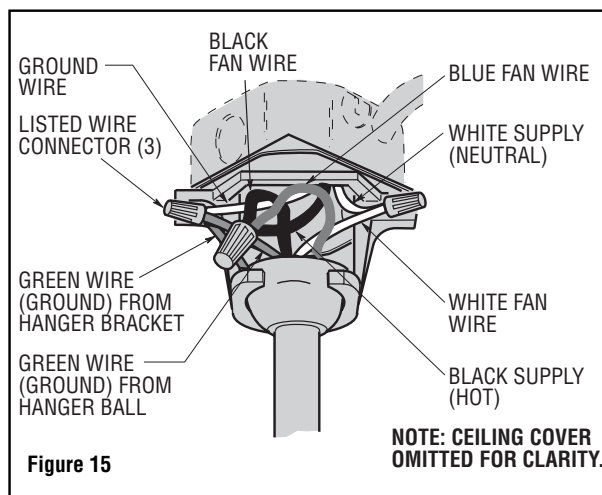
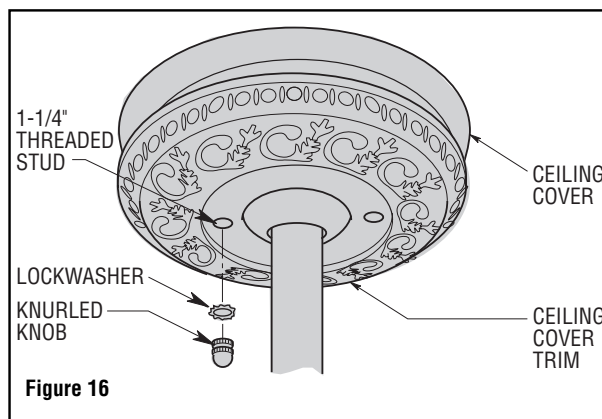

Figure 15
Figure 16
1. Connect the green grounding lead from the hanger ball and the green grounding lead from the hanger bracket to the grounding conductor of supply (this may be a bare wire or wire with green colored insulation) (Figure 15). Securely connect wires with wire connector supplied.
2. Securely connect the fan motor white wire to the supply white (neutral) wire using wire connector supplied (Figure 15). Securely connect the fan motor black wire and blue wire to the supply black (hot) wire using wire connector supplied (Figure 16). After connections have been made, turn leads upward and carefully push leads into the outlet box, with the white and green leads on one side of the outlet box and the black and blue leads on the other side of the outlet box.
3. Screw the two 1-1/4" threaded studs (supplied) into the tapped holes in the hanger bracket (Figure 16).
4. Lift the ceiling cover and the ceiling cover trim up to the threaded studs and turn until studs protrude through the holes in the ceiling cover and trim (Figure 16).
5. Secure the ceiling cover and trim in place by sliding lockwashers (supplied) over the threaded studs and installing the two knurled knobs (supplied) (Figure 16). Tighten the knurled knobs securely until the ceiling cover fits snugly against the ceiling and the hole in the ceiling cover is clear of the downrod. Your fan is now wired to be turned on and off from the fan switch.